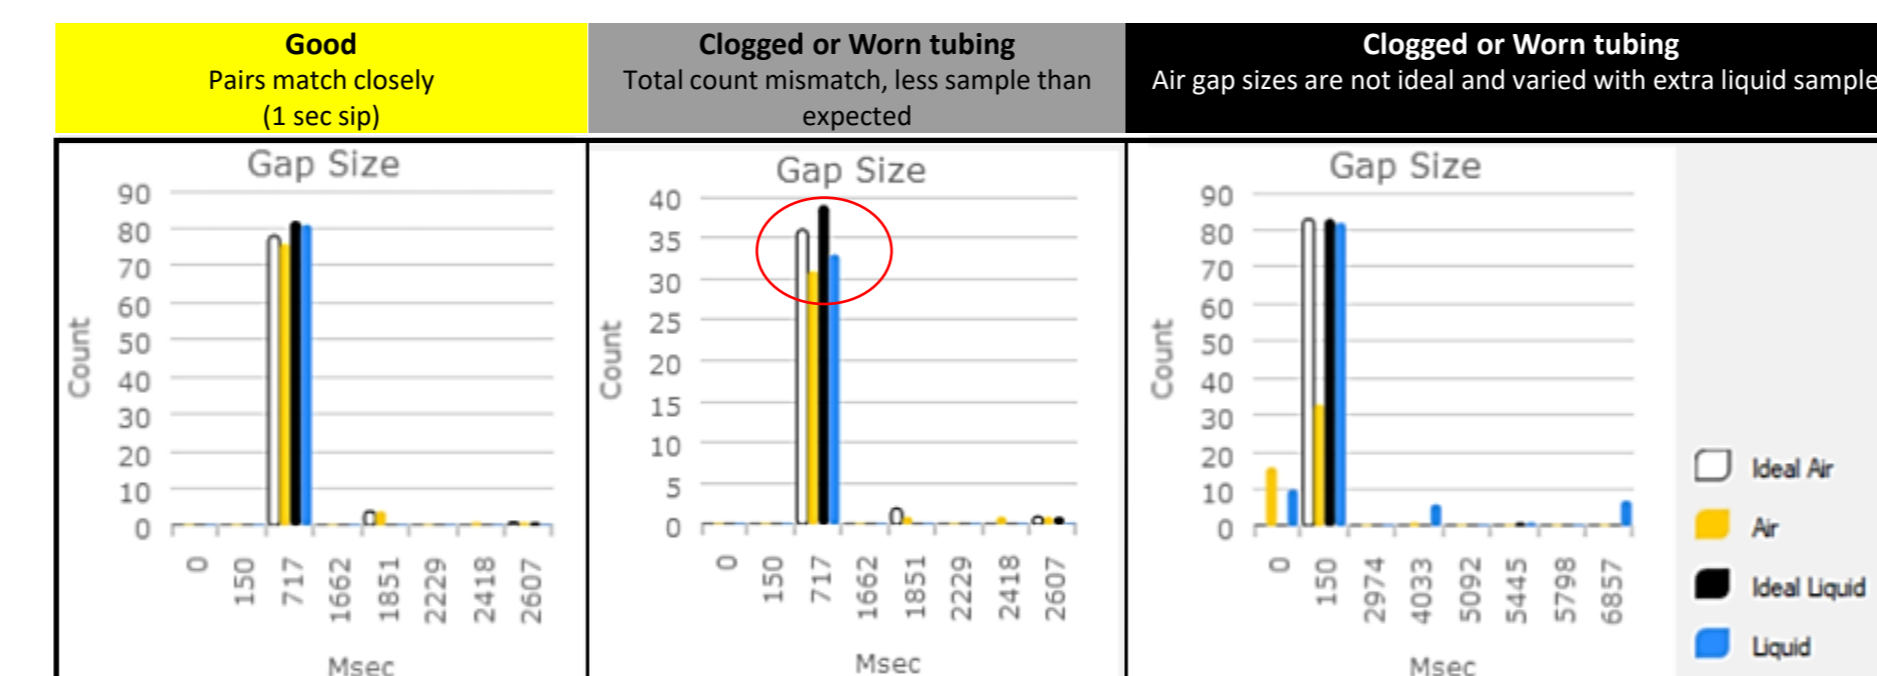

Figure 2: Gap Size Data
- Gap Size data (Figure 2) - Describes the gap sizes for the air gap and sample slugs as a timing measure.